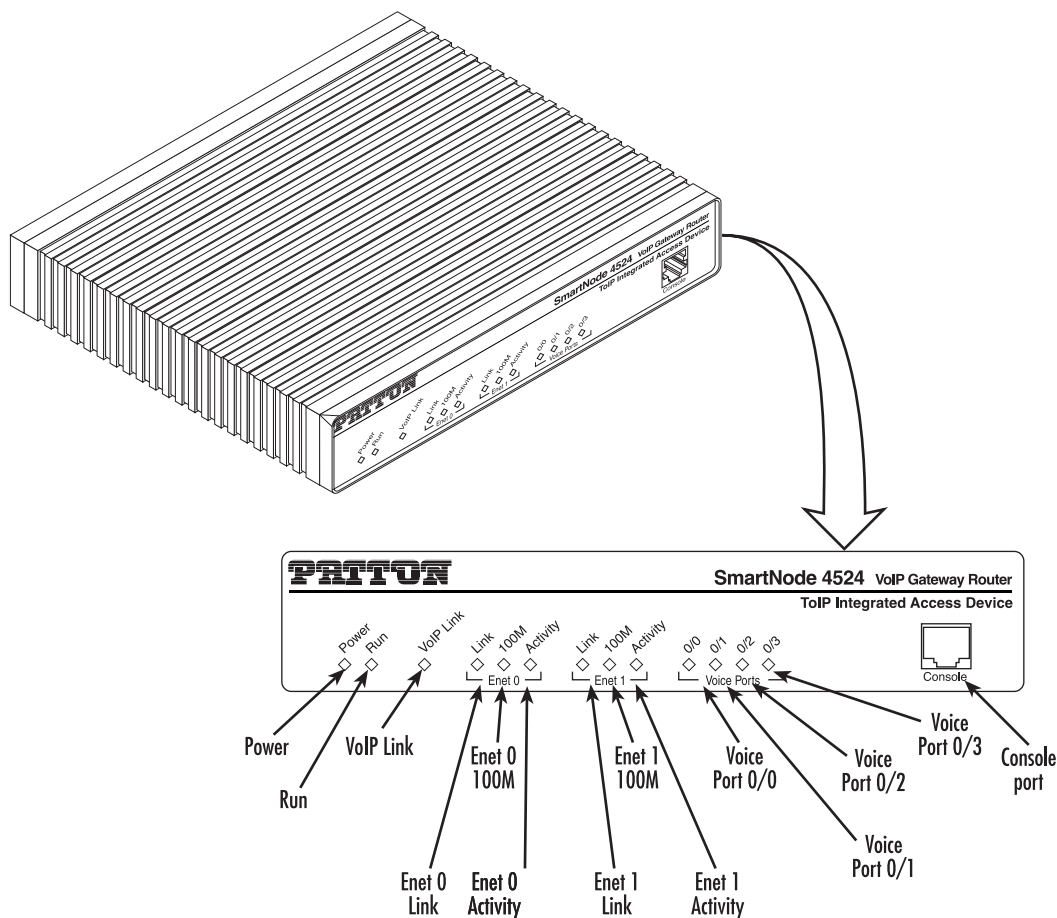

Figure 23. Router front panel LEDs and Console port locations (SmartNode 4524 shown)
5. Verify that the green *Power* LED is lit (see figure 23).